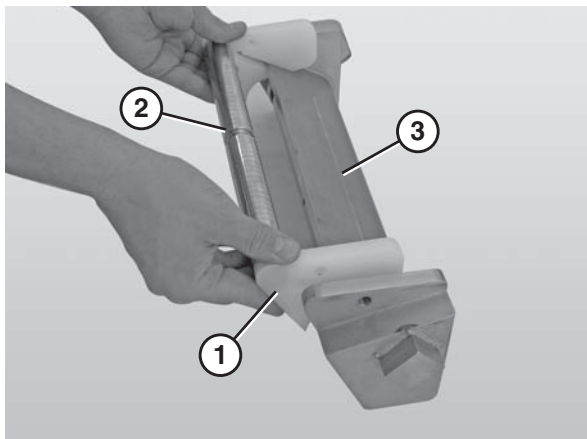

Figure 78
5. Slide the nose bar puck holders (Figure 78, item 1) and the nose bar spindle (Figure 78, item 2) off of the nose bar weldment (Figure 78, item 3).